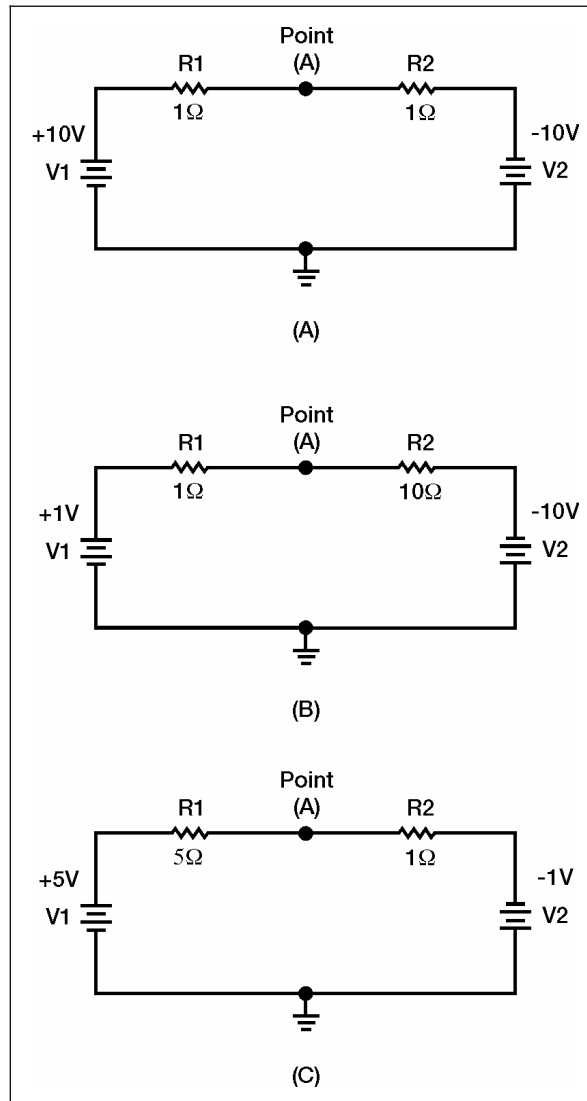

Figure 7-13. Virtual Ground Circuits
7-60. Virtual ground is a point in a circuit that is at ground potential (0 volts) but is not connected to ground. Figure 7-13 shows an example of several circuits with points at virtual ground. In view (A), V1 (the left-hand battery) supplies +10 volts to the circuit while V2 (the right-hand battery) supplies -10 volts to the circuit. The total difference in potential in the circuit is 20 volts.
7-62. It is not necessary that the voltage supplied be equal to create a point of virtual ground. In Figure 7-13, view (B), V1 supplies +1 volt to the circuit while V2 supplies -10 volts. The total difference in potential is 11 volts. The total resistance of this circuit (R1 + R2) is 11 ohms. The total current (I_T) is 1 ampere. The voltage drop across R1 (E_{R1} = R1 x I_T) is 1 volt. The voltage drop across R2 (E_{R2} = R2 x I_T) is 10 volts. The voltage at point A can be computed as follows: